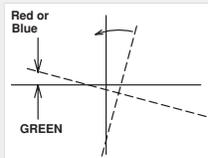

Fig.2
5. Tighten screws-B and hold the LCD Panel Bracket. See Fig.2